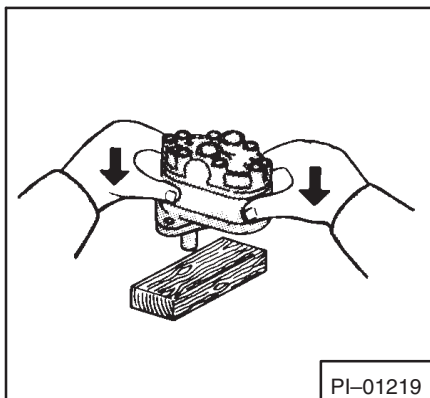

Fig. 79 Separation of Plates
4. Remove the pump from the vise. Separate the plates by striking the shaft onto a wooden block (Fig. 79).